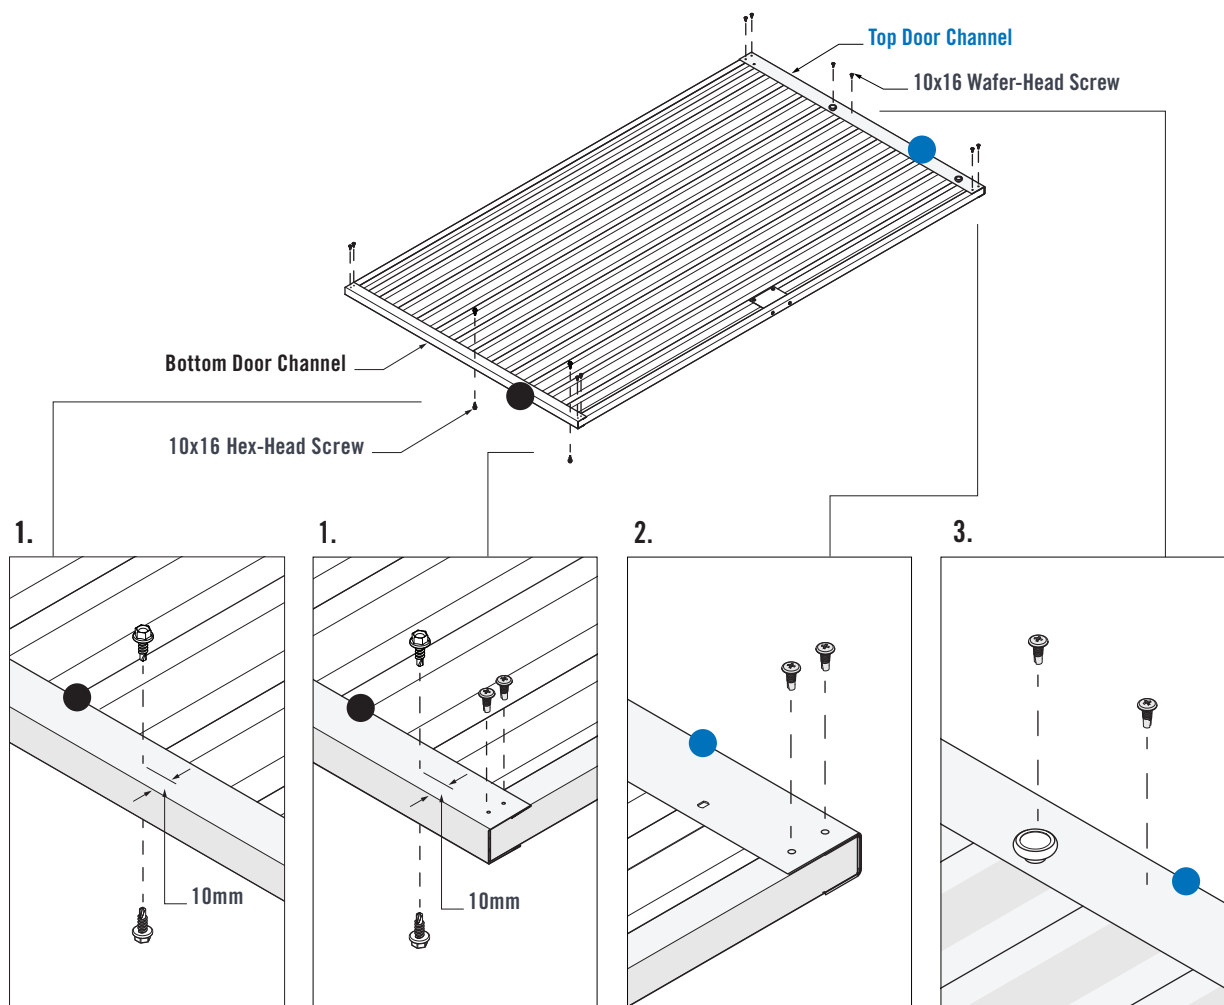

FIGURE 7.6
1. Fasten a 10x16 Hex-Head Screw into the mid-point of the Bottom Door Channel. Ensure the screw is fastened approximately 10mm from the bottom face of the Channel. Fasten a 10x16 Hex-Head Screw near the Handle Mount end of the Bottom Door Channel. Flip over the Door Assembly so that the underside is now facing up. Fasten two more 10x16 Hex-Head Screws in the same manner on the opposite side of the Bottom Door Channel (Figure 7.6).
2. Fasten two 10x16 Wafer-Head Screws through pilot holes in the **Top** and Bottom Door Channels and into the Vertical Door Channels at all four corners (Figure 7.6).
3. Fasten a 10x16 Wafer-Head Screw through the **Top Door Channel** and into the two Sheet Crests on both sides of the Door Wheel (Figure 7.6).